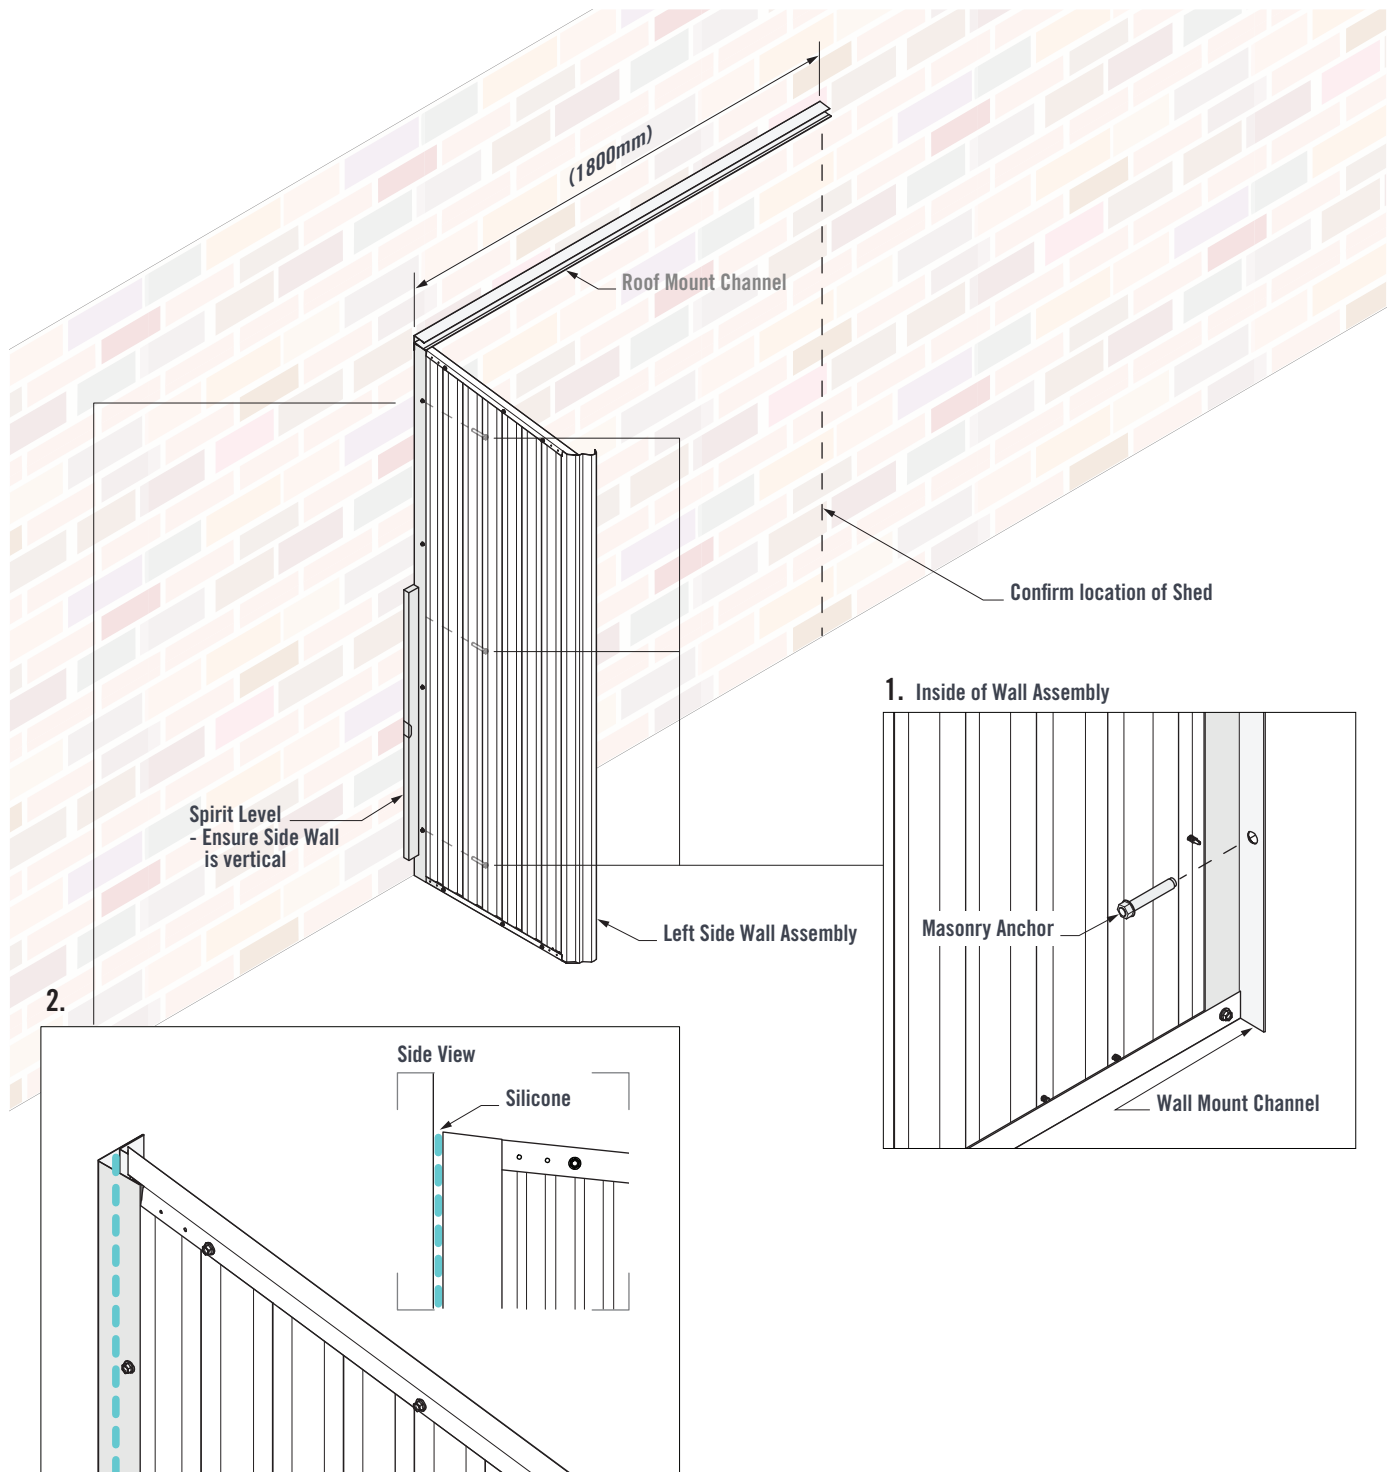

FIGURE 6.0
Confirm the location of the Shed against the building wall. Position the Left Side Wall Assembly against the building wall. Use a spirit level to ensure the Wall Assembly is vertical and square to the wall. Note: the Roof Mount Channel can be used to confirm the correct width of the shed (Figure 6.0).
1. Mark and drill three 10mm holes through the pilot holes of the Wall Mount Channel and into the building wall. Loosely install three M10x47 Masonry Anchors (Figure 6.0).
2. Before tightening the Masonry Anchors, apply a bead of silicone between the Wall Mount Channel and building wall to prevent rain entering the shed (Figure 6.0).